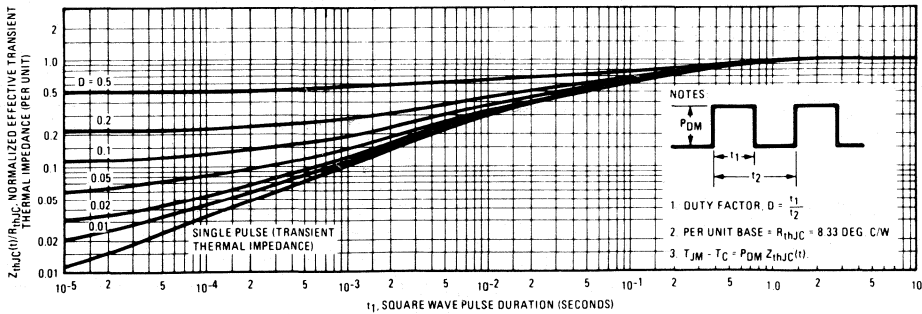

Fig. 5 - Maximum Effective Transient Thermal Impedance, Junction-to-Case Vs. Pulse Duration
3. Repetitive Rating: Pulse width limited by max. junction temperature. See Transient Thermal Impedance Curve (Figure 5).